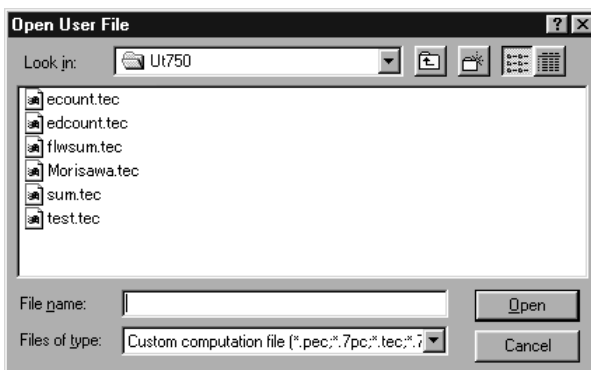

Figure 5.1.7 [Open User File] Dialog Box
- (3) If you are configuring a custom display using a user file, choose <Open User File>. Click the <Open User File> option button, then the <OK> button. The [Open User File] dialog box (Figure 5.1.7) appears.
In the [New/Modification] dialog box, click the “Open User File” option button and the <Open> button. The [Open User File] dialog box (Figure 5.1.7) appears.